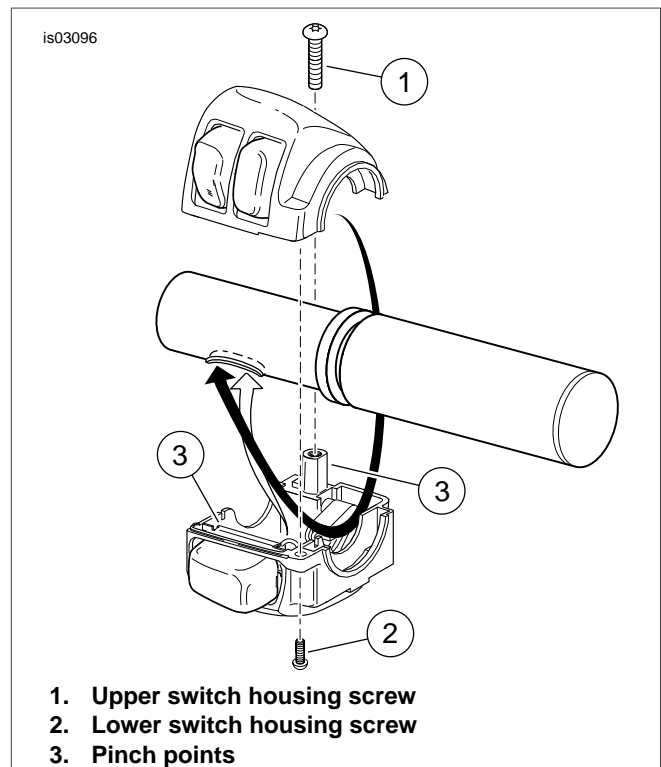

Figure 2. Switch-Housing Wire Routing (Right-Side Housing Shown)
See Figure 2. Route the right side switch wire bundle through the switch housing as shown. Gently feed the wire bundle into the right side switch wire hole.
13. Route the left side switch wire bundle through the switch housing similar to that shown in Figure 2 for the right side wiring. Gently feed the wire bundle into the left side switch wire hole.